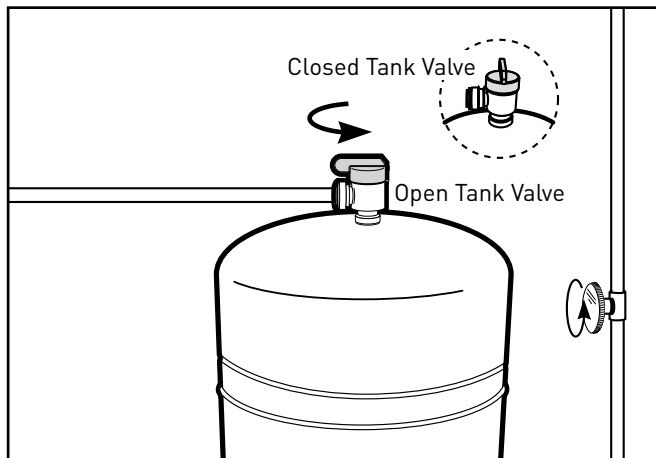

Figure 25
1. Turn off valve at top of storage tank (Figure 25).
2. Turn on the cold water supply (Figure 25).